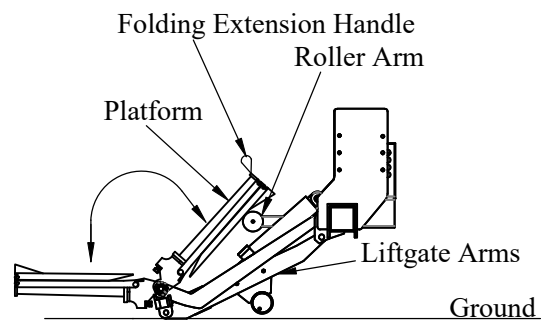

Figure 8: Step 11.
11. With the liftgate arms touching the ground, stand to the side of the platform, and fold the platform closed until it rests on the roller arm (Figure 8).